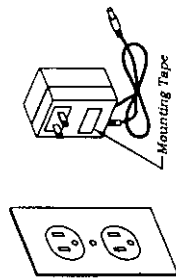

Figure 4-2
- REMOVE adhesive backer from mounting tape on transformer, and plug in the transformer. (Figure 4-2)